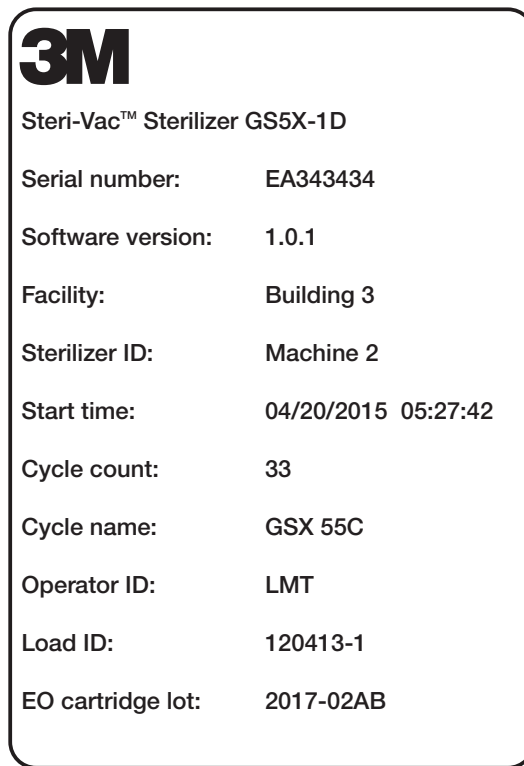

Figure 80.
There are five (5) standard sections of a cycle report: Header, Graph, Table, Set-points, and Footer. The contents for each of the five report sections are illustrated in Figures 80 - 84. There are three options for assembling a cycle report: Graph, Table and Detailed. Table 6 explains the sections included in each cycle report option.